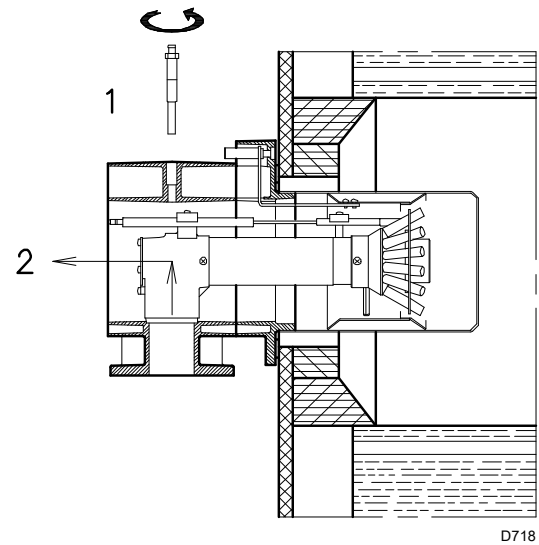

Fig. 13
In order to reach inside the combustion head (Fig. 13) proceed as follows:
- remove the screw 1)(Fig. 13);
- take out the inner part 2)(Fig. 13) of the head, and then calibrate them.
If you noticed any irregularities in positions of the probe or ignition electrode during the check mentioned above, remove screw 1)(Fig. 13), extract the internal part 2)(Fig. 13) of the head and proceed to set up the two components correctly.